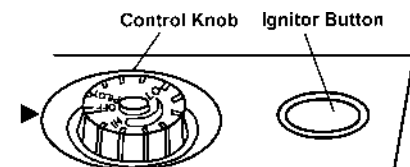

Figure 21 - Control Knob In The OFF Position
4. Wait five(5) minutes to clear out any gas. Then smell for gas, including near the floor. If you smell gas, STOP! Follow "B" in the safety information on the side of heater. If you don't smell gas, go to the next step.
5. Turn control knob counterclockwise ↻ to the PILOT position. Press in control knob for five(5) seconds. (see Figure 21).